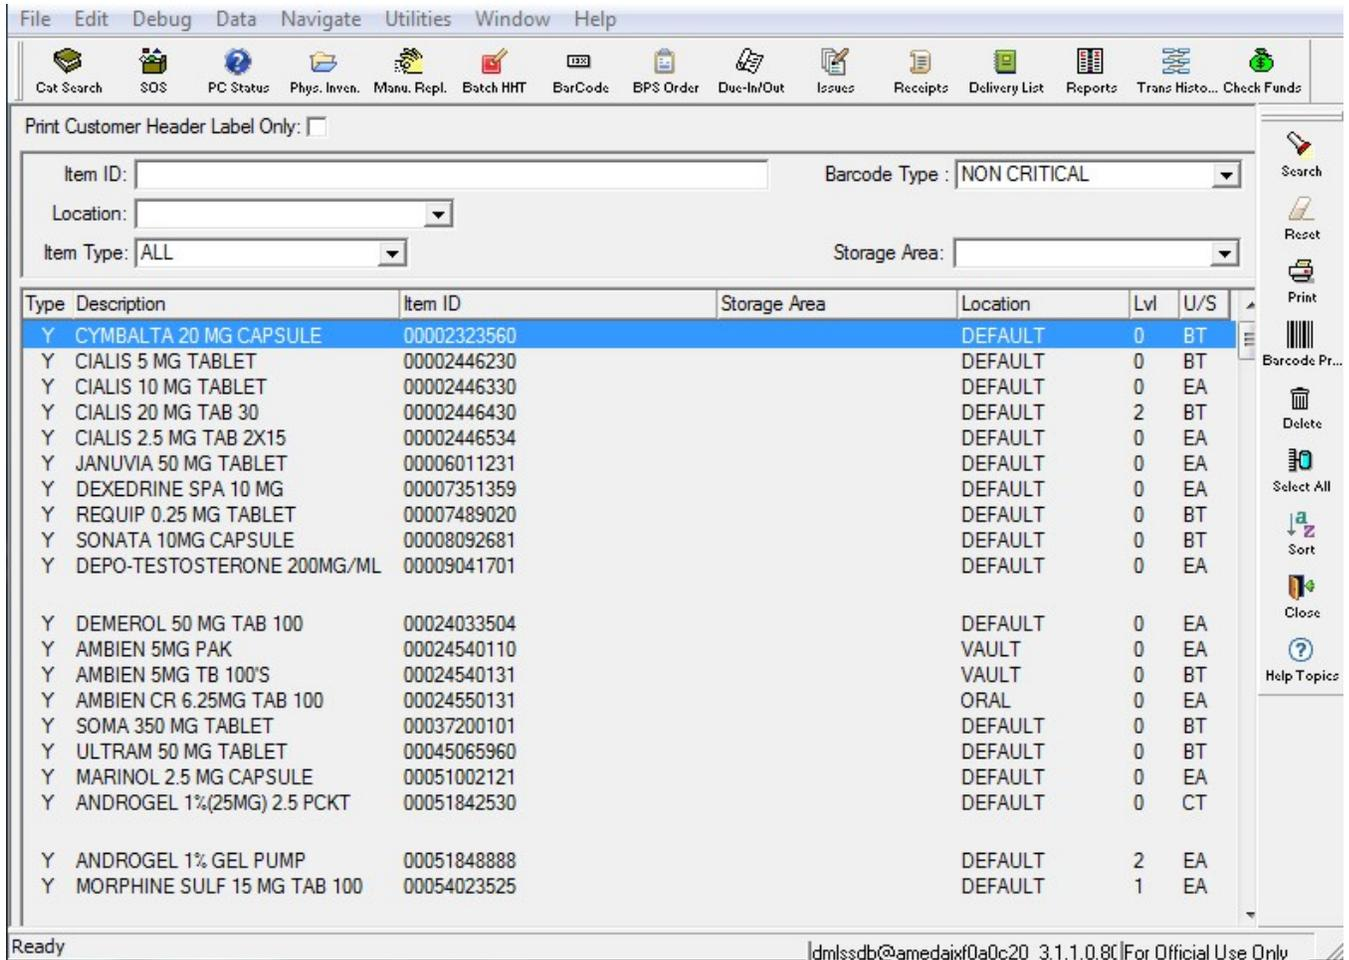

Figure 8. Customer Area Inventory Management Print Barcode Window
1. Use the CAIM Print Barcode function to print barcode labels for new items or replacement labels for existing items. Users can select one or multiple barcodes to print (Figure 8).